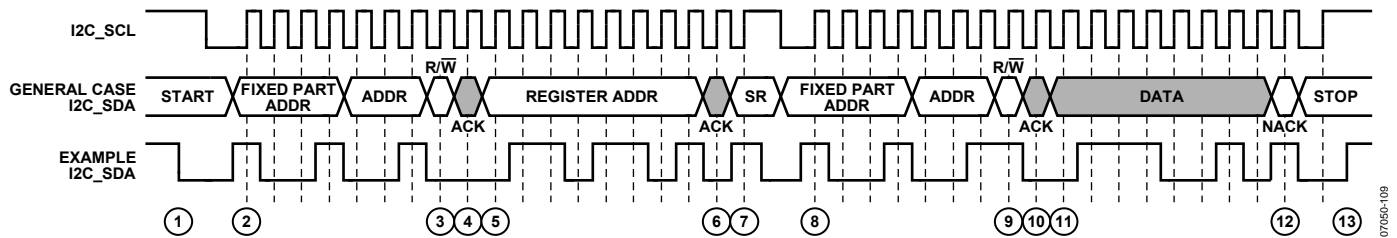

Figure 29. I²C Read Procedure
To read data from the AD8192 register set, an I²C master (such as a microcontroller) needs to send the appropriate control signals to the AD8192 slave device. The signals are controlled by the I²C master unless otherwise specified. For a diagram of the procedure, see Figure 29. The steps for a read procedure are as follows:
3. Send the write indicator bit (0).
9. Send the read indicator bit (1).
- a. Send a no acknowledge followed by a stop condition (while holding the I2C_SCL line high, pull the SDA line high) and release control of the bus to end the transaction (shown in Figure 29).